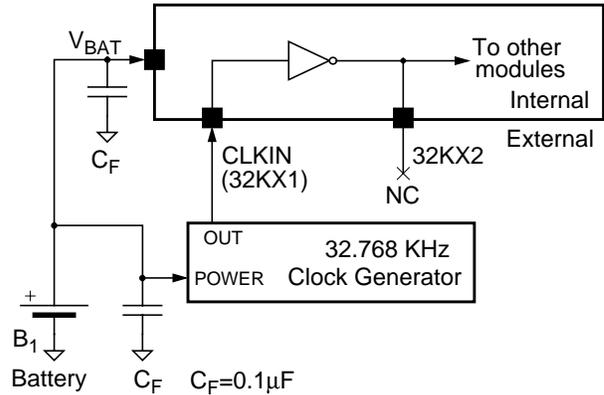

Figure 6-2. External Oscillator Connections
32.768 KHz can be applied from an external clock source, as shown in Figure 6-2.